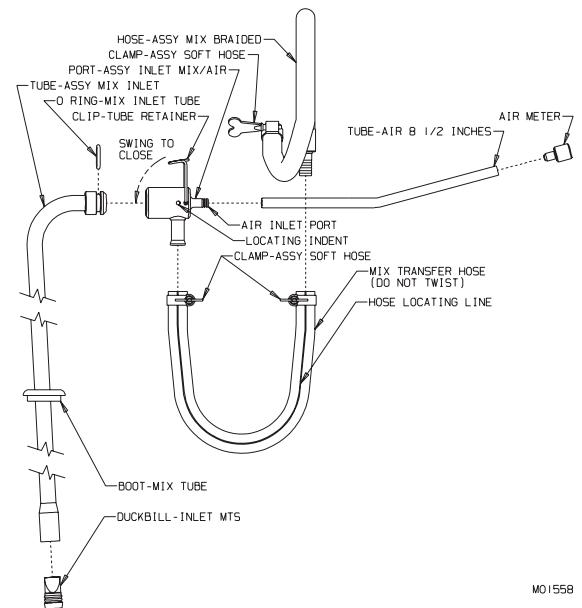

Figure 7-5 MTS Hose Assembly
12. Disassemble the MTS hose assemblies as shown in figure 7-5.